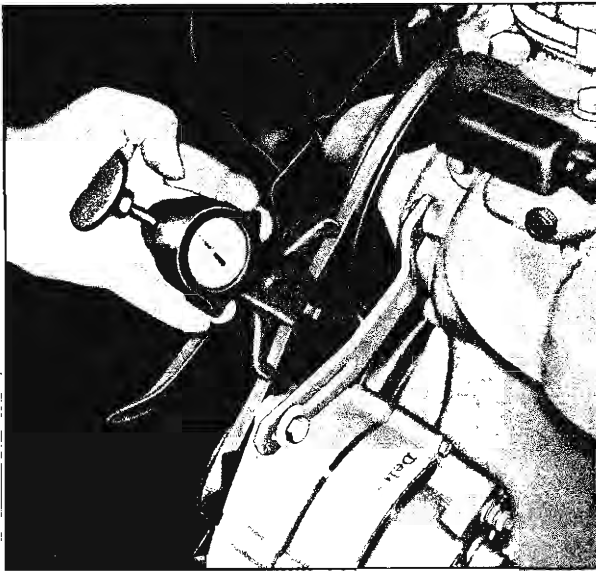

Fig. 8—Checking Fan Belt Tension
- Using a strand tension gauge, check the fan belt midway between the water pump pulley and Delcotron pulley (fig. 8).